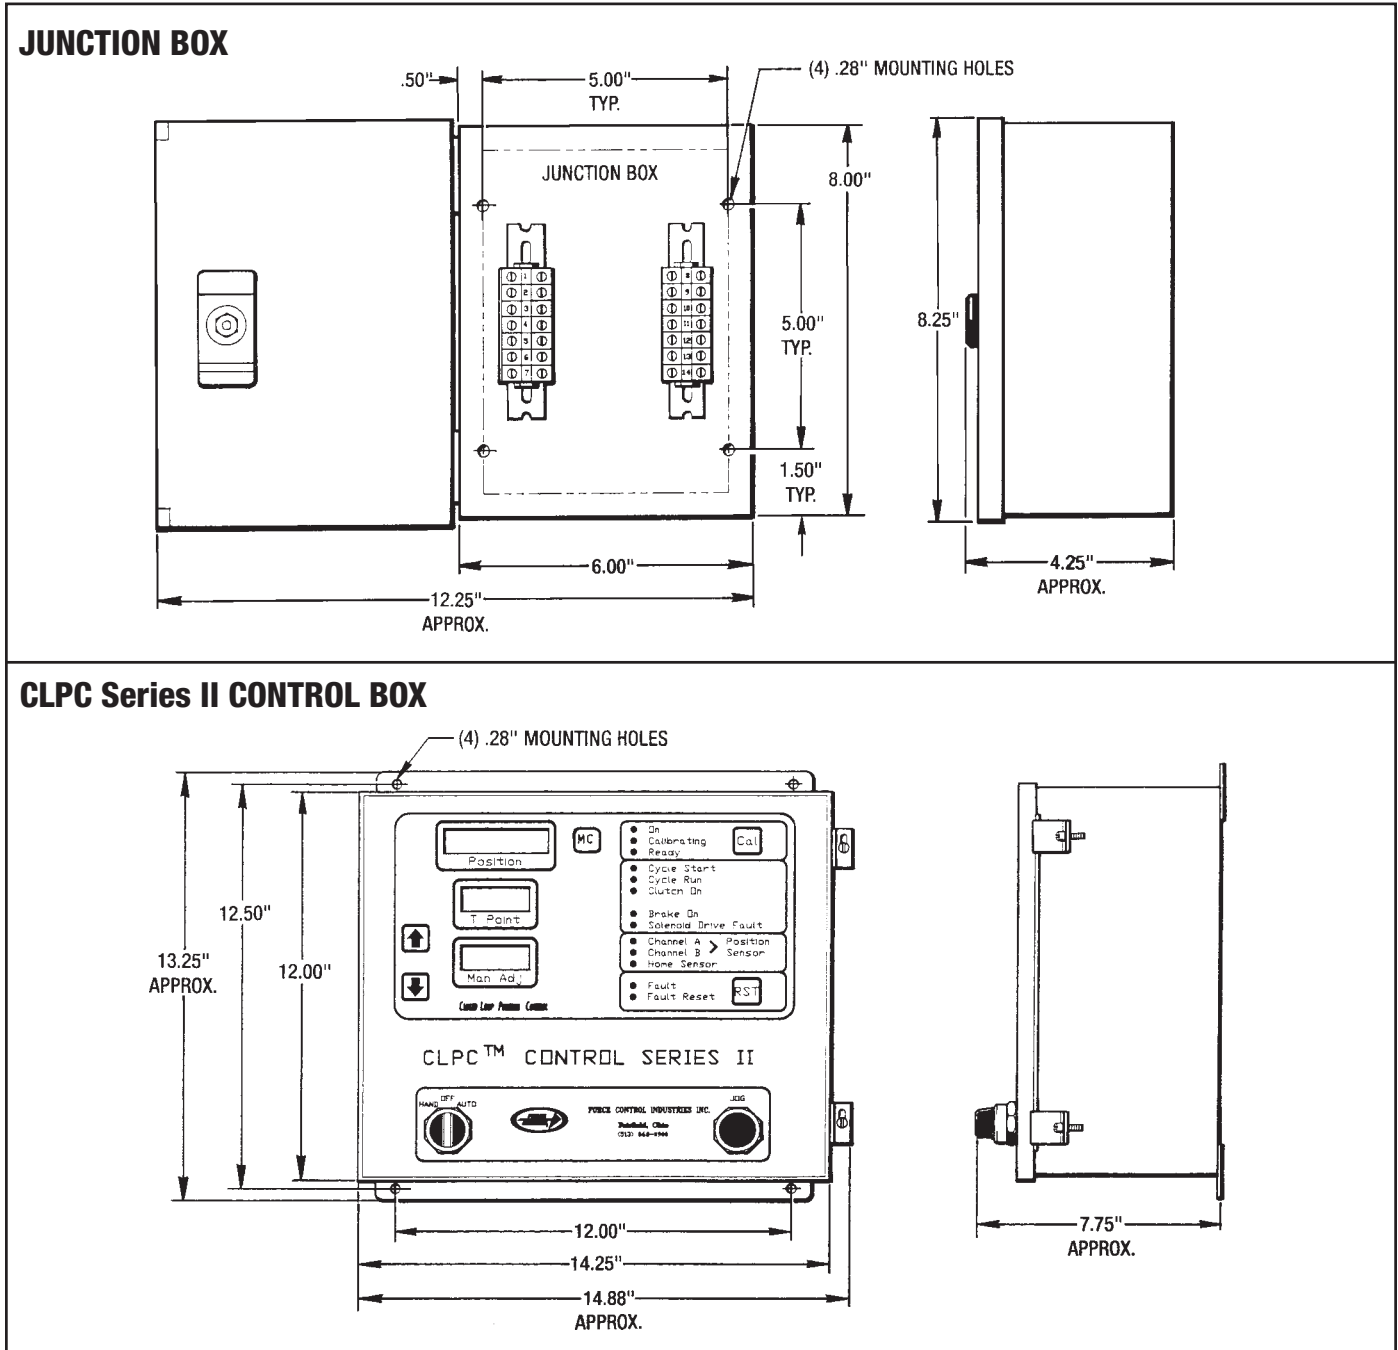

Figure 2.3 - CLPC Control and Junction Box Dimensions
The Junction Box needs to be mounted within reach of the three Brad Harrison cables from the Drive Assembly. It can be mounted on the drive base or other frame work using the (4) mounting holes in the rear of the box. (See Figure 2.3 for mounting hole dimensions.)
The CLPC Series II Control should be mounted within 50 ft. of the drive, convenient to the operator as a Remote Operator's Station. There are no additional controls to be mounted on the main electrical panel. Mounting should be on a solid structure away from heat and vibration using the mounting holes provided as shown in *Figure 2.3*. (See **Section 2.7 Electrical Connections** for additional wiring information.)